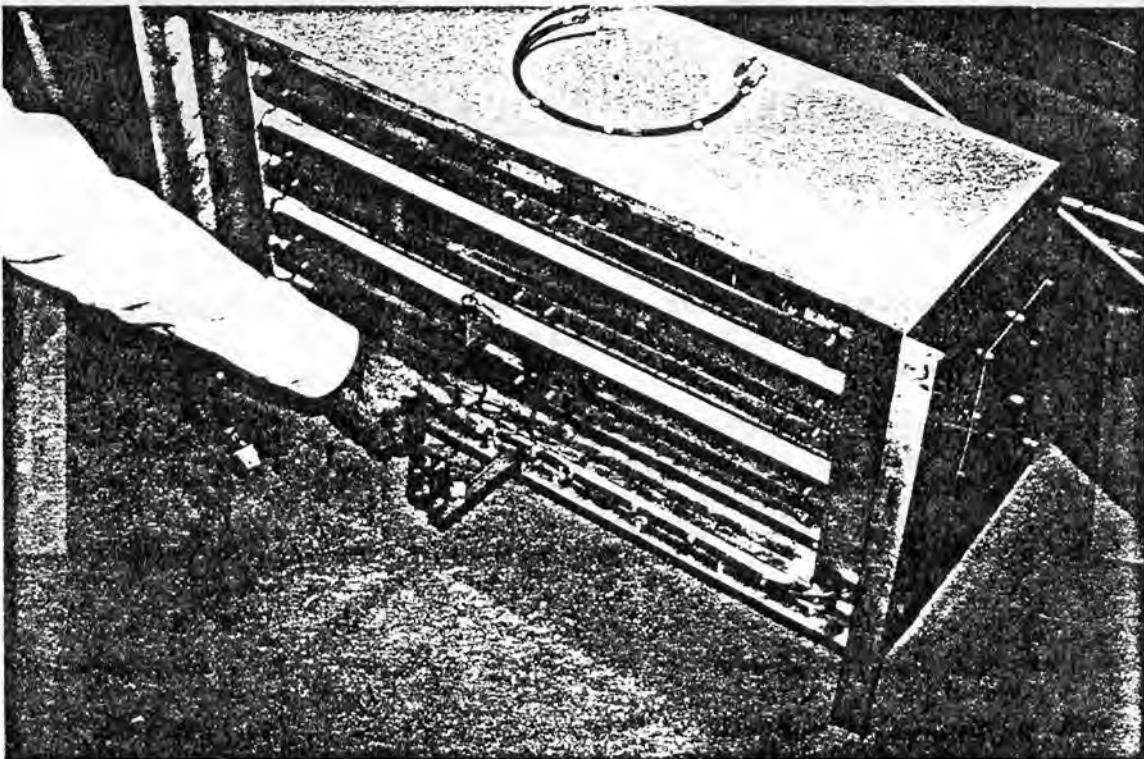

FIGURE 3
4. Connect the mixed air thermistor sensor to the outside air intake hood assembly to position it in the air stream with the screws and brackets provided. (SEE FIGURE 3)